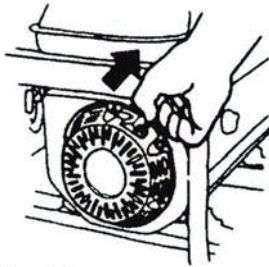

Fig.30
5.5.1 Start the generator (Figure 30)